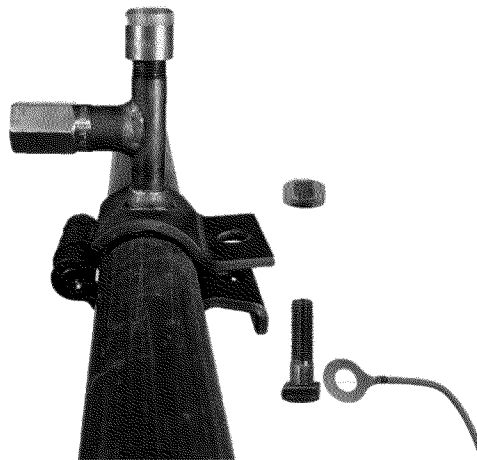

Figure 2. Installation of Cathodic Protection Wire Ring
- 2.4 Replace saddle bolt AND install Cathodic protection wire ring connector as follows (Figure 2):